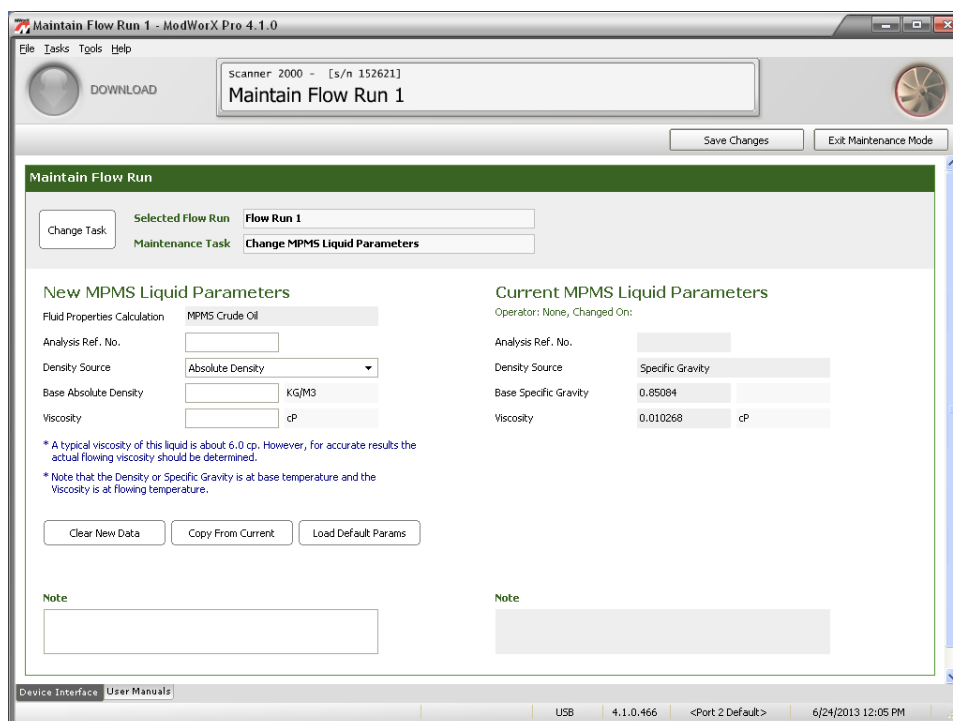

Figure 9.13
- c. Click **OK** to save the settings and return to the Maintain Flow Run screen (Figure 9.13, page 134).